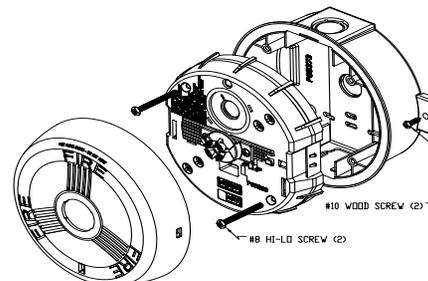
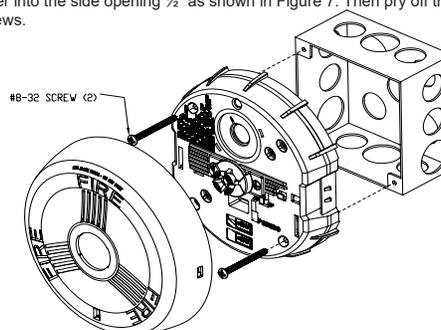
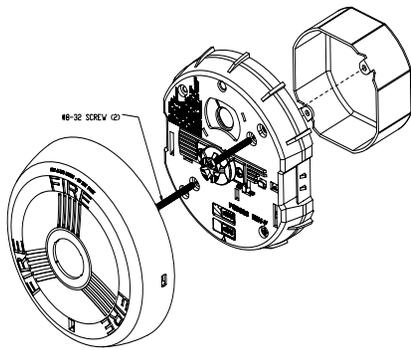

Figure 4: Ceiling Strobe with LSPKBBC Surface Mounting Box
Figure 5: Strobe Installation with 4" Backbox
Figure 6: Strobe Installation with Octal Backbox
- Install device as shown in Figure 4, Figure 5, or Figure 6 (4" square backbox or octal) with the screws provided.